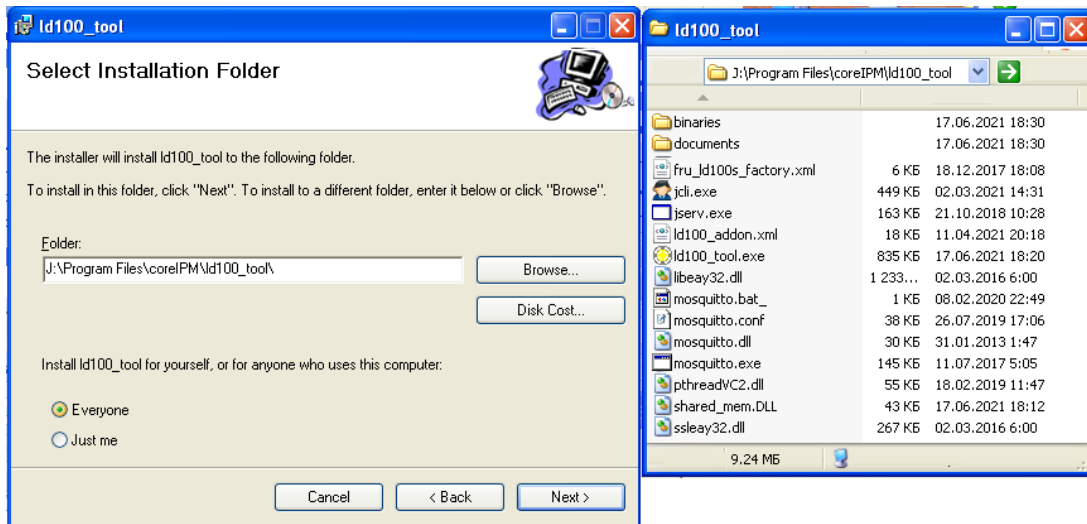

Fig.1 The ld100\_tool installer window, and the installation directory after install.
- 3) Follow the instructions on your screen (Fig.1)